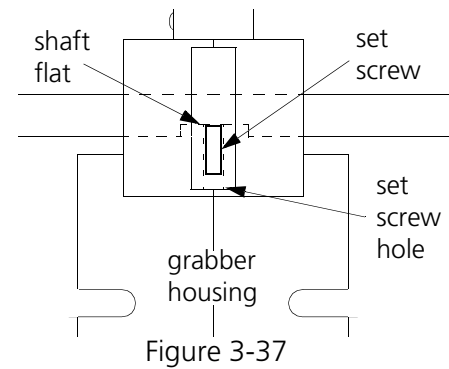

Figure 3-37
9. Pull the grabber blade outward to reveal the set screw hole (see Figure 3-37). Align the hole over the "flat" portion of the shaft and insert the set screw. Snug the set screw but do not fully tighten it.